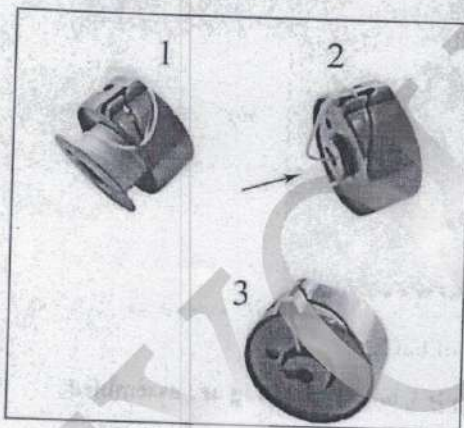

Fig.4b
- (1) The bobbin thread is threaded according to the order ①-③ illustrated in Fig.4b.